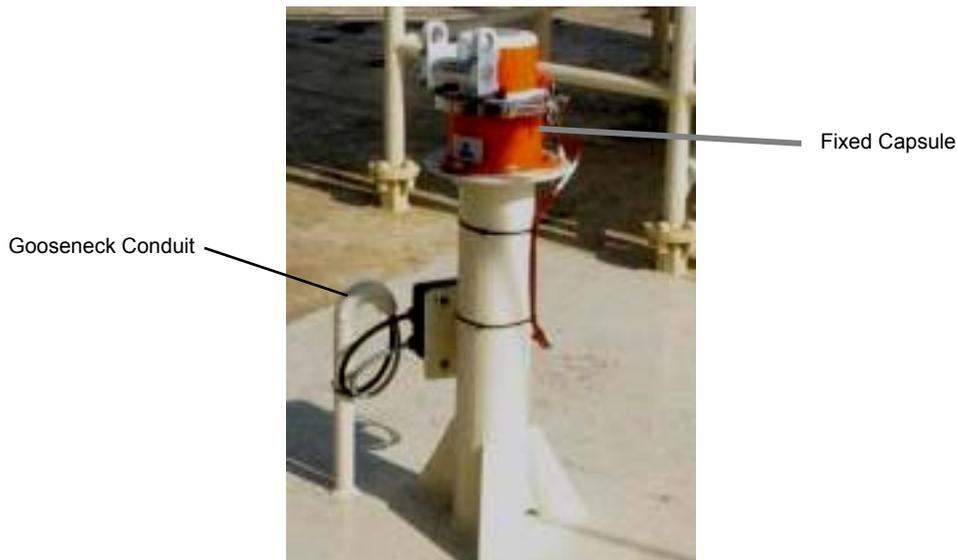

Figure 5-19 - Sample VDR-100G2S SFRM Installation
**Note!** It is **highly** recommended that cabling connecting the FRM to the VDR-100G2 is installed through a gooseneck conduit (see Figure 5-19 - Sample VDR-100G2S SFRM Installation for a sample FRM installation.)